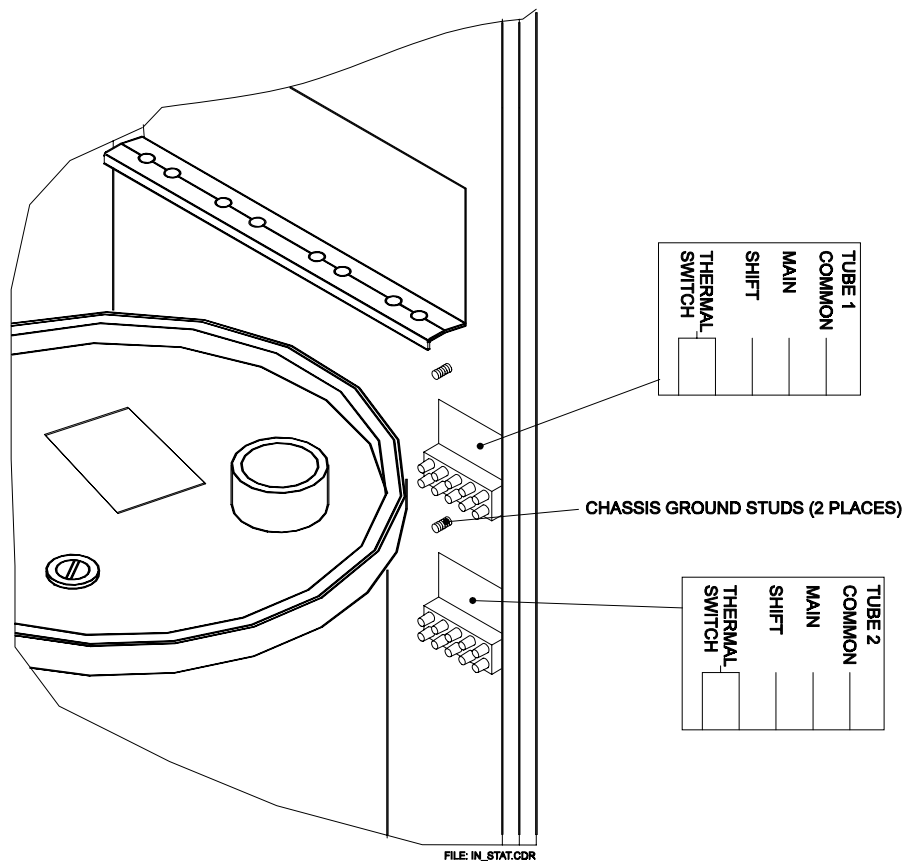

Figure 2-6: Stator connections to generator
Refer to figure 2-6 for the X-ray tube stator and thermal switch connections.
THE SHIELD FOR THE STATOR CABLE(S) MUST BE PROPERLY GROUNDED AT THE CHASSIS GROUND STUD(S) SHOWN IN FIGURE 2-6.
ONE TUBE ONLY GENERATORS WILL HAVE 1 STATOR TERMINAL BLOCK FITTED. THE LOWER TERMINAL BLOCK IN FIGURE 2-6 IS ONLY FITTED ON TWO TUBE GENERATORS.